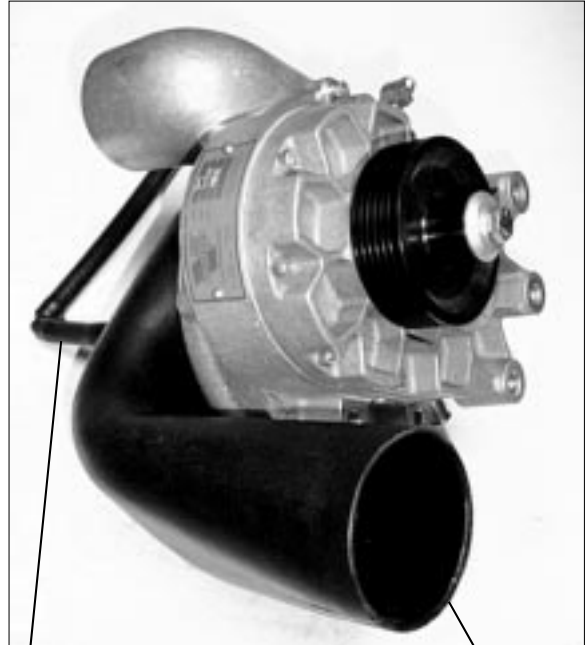

Fig. 10-a
- E. Attach the supplied idler pulley to the supercharger using the supplied spacer, dust shield and M12 x 50mm screw (place the spacer in between the supercharger and the idler pulley). (See Fig. 10-c for idler location.)